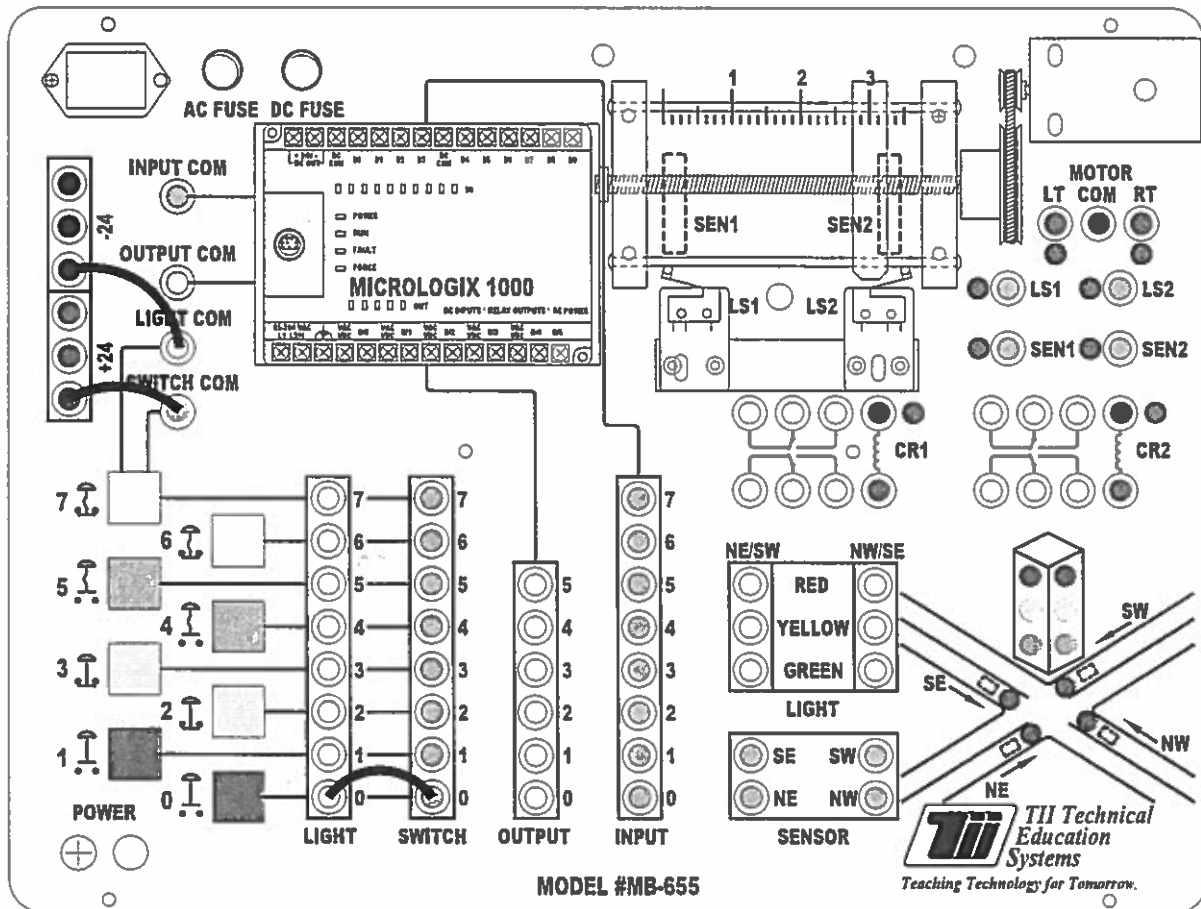

Figure 2-9
5. Connect a jumper wire from switch connector 0 to light connector 0, as in Figure 2-9. Press and hold switch 0.